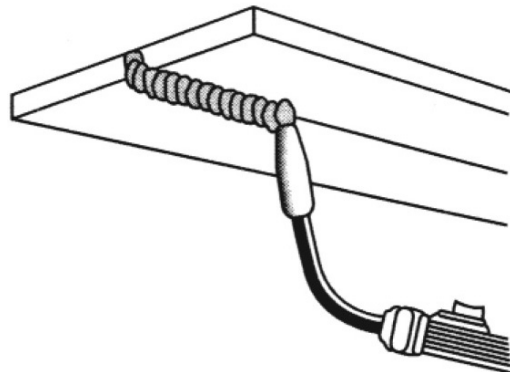

Figure 18. Overhead Position
4. The **OVERHEAD POSITION** (Figure 18) is the most difficult welding position because gravity is pulling at the weld puddle trying to make it drip off the work piece. Angle A (see **HOLDING THE GUN** - p.18) should be maintained at 60 degrees, the same as in the flat position. Maintaining this angle will reduce the chances of molten metal falling into the nozzle should it drip from the weld puddle. Angle B should be held at zero degrees so that the wire is aiming directly into the weld joint. If you experience excessive dripping of the weld puddle, select a lower heat setting. Also, the weave bead tends to work better than the stringer bead when welding overhead.